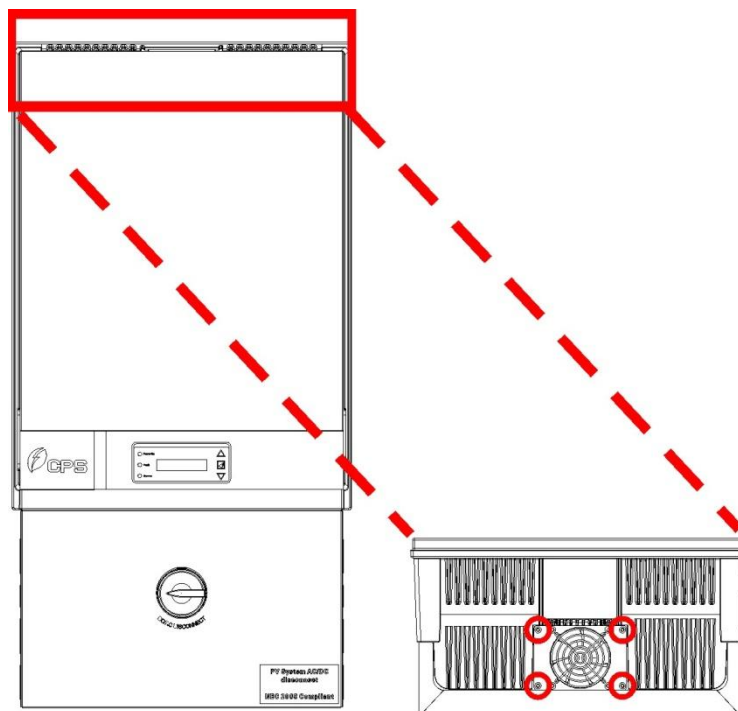

Figure 9.1.2: Screws for the external cooling fan
The external fan is located at the top of PV Inverter as shown in figure 9.1.2. When the cooling fan is not working properly, user will receive three different kinds of failure messages from the LCD.
- B) Unfastening all screws located in each corner as highlighted in figure 9.1.2. After the screws are removed, take off the top cover of the cooling fan from PV Inverter as shown in the figure below: